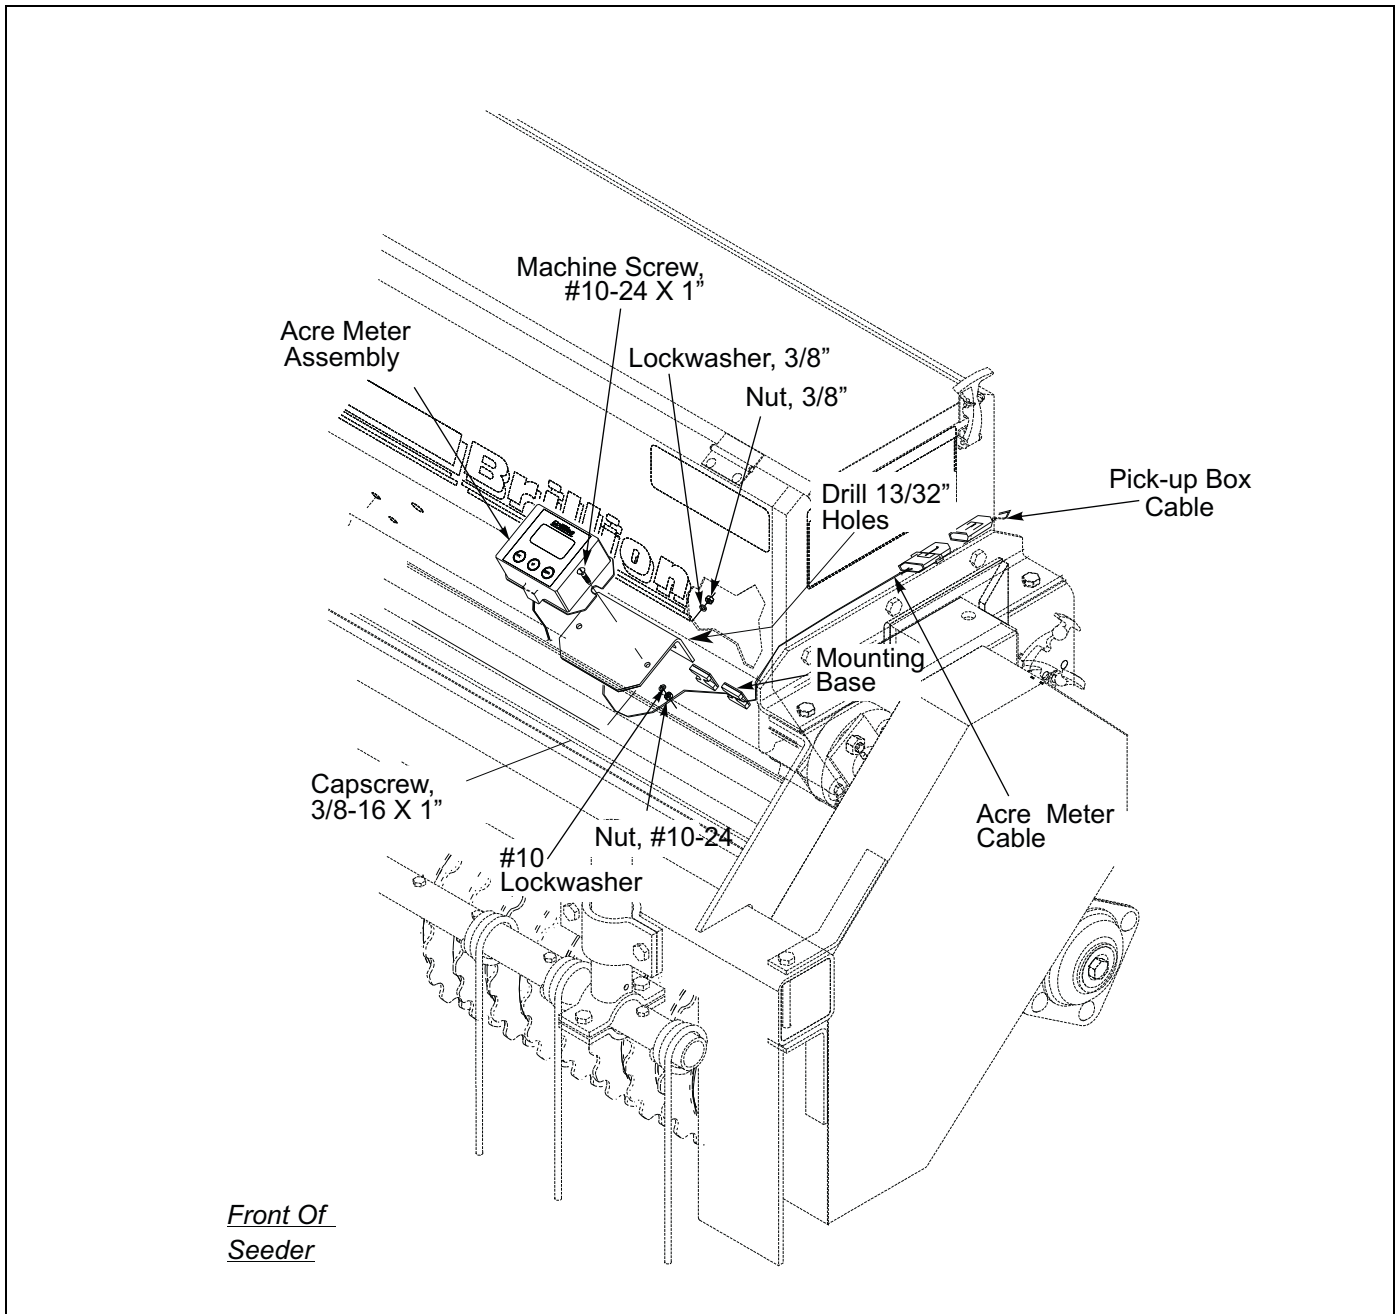

Figure 3-4: Acre Meter Installation (1 of 2)
1. Drill $13/32$ " holes into seedbox at location shown. See Figure 3-4.